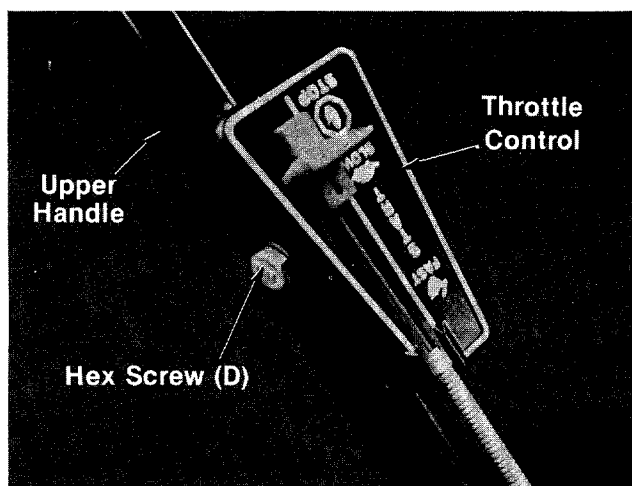

FIGURE 5.
4. Assemble upper handle to lower handle. Secure with two curved carriage bolts (C) and hand knobs (D) as shown in figure 5. The hand knobs may be assembled either to the inside or the outside of the handle.
5. Place the throttle control in position on **left** side of upper handle. Secure with hex bolt (E) and lock nut (F). See figure 5.